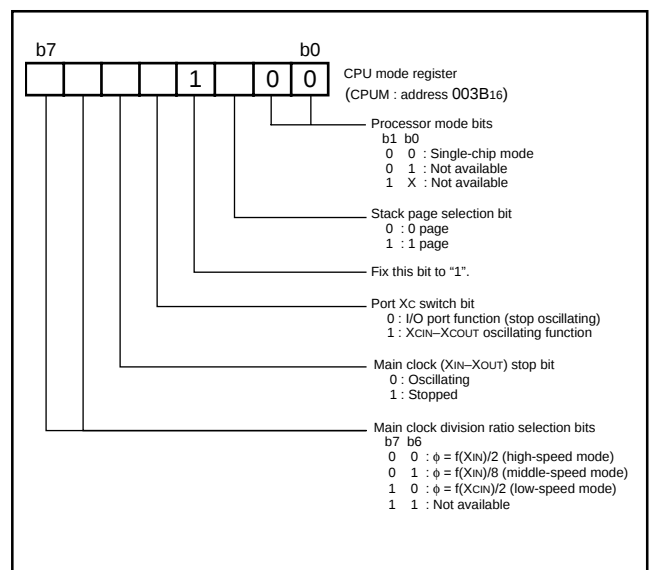

Fig. 103 CPU mode register bit configuration in CPU rewriting mode
Figure 103 shows the CPU mode register bit configuration in the CPU reprogramming mode.
- ① Apply 0 V to the CNVss/VPP pin for reset release.
- ② Set the CPU mode register (see Figure 103).
- ③ After CPU reprogramming mode control program is transferred to internal RAM, jump to this control program on RAM. (The following operations are controlled by this control program).
- ④ Set "1" to the CPU reprogramming mode select bit.
- ⑤ Apply VPPH to the CNVss/VPP pin.
- ⑥ Wait till CNVss/VPP pin becomes 12V.
- ⑦ Read the CPU reprogramming mode monitor flag to confirm whether the CPU reprogramming mode is valid.
- ⑧ The operation of the flash memory is executed by software-command-writing to the flash command register.